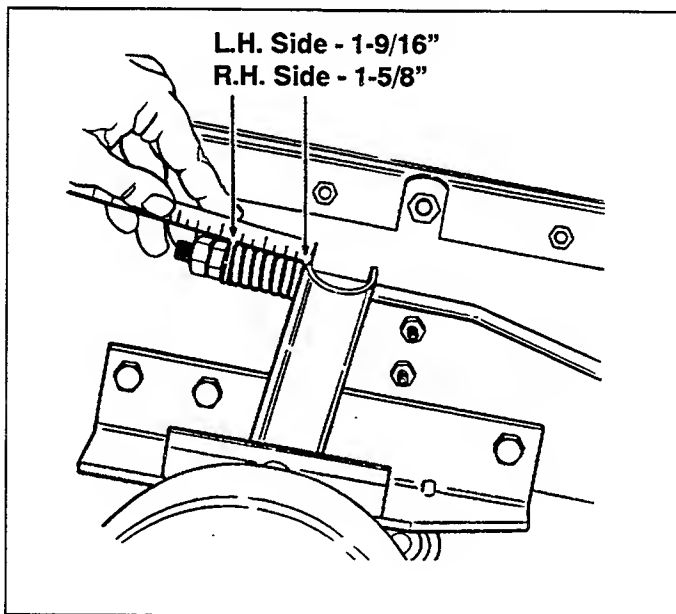

Figure 27. Parking Brake Adjustment
2. Measure length of spring as shown in figure 27. Measure along centerline of spring. Measurement should be 1-5/8".